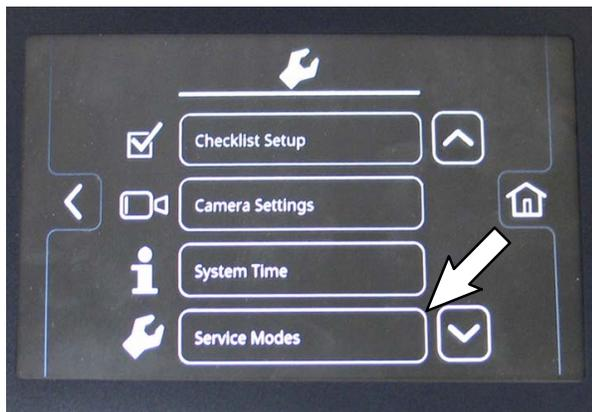

FIG. 35
- Press the settings button. The Service Mode setting screen should appear in the display. (Fig. 34/Fig. 35)
- Use the down arrow button to scroll down to the Service Modes button and select the Service Modes button to access the service modes. (Fig. 35)